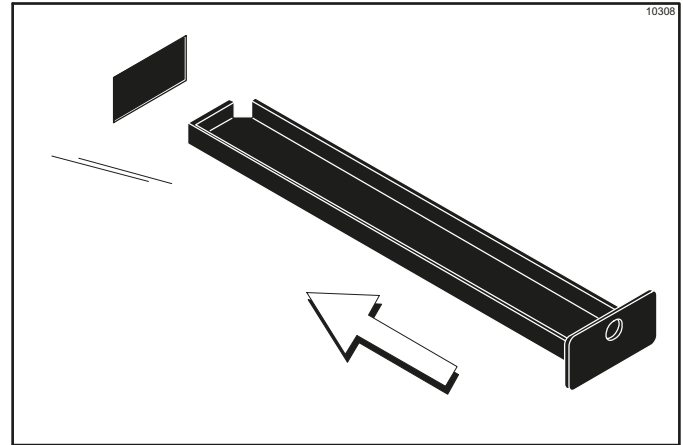

Figure 6-19
25. Slide the two rear drip pans into the holes in the back panel. Slide the two drip pans into the holes in the side panels. (See Figure 6-19.)